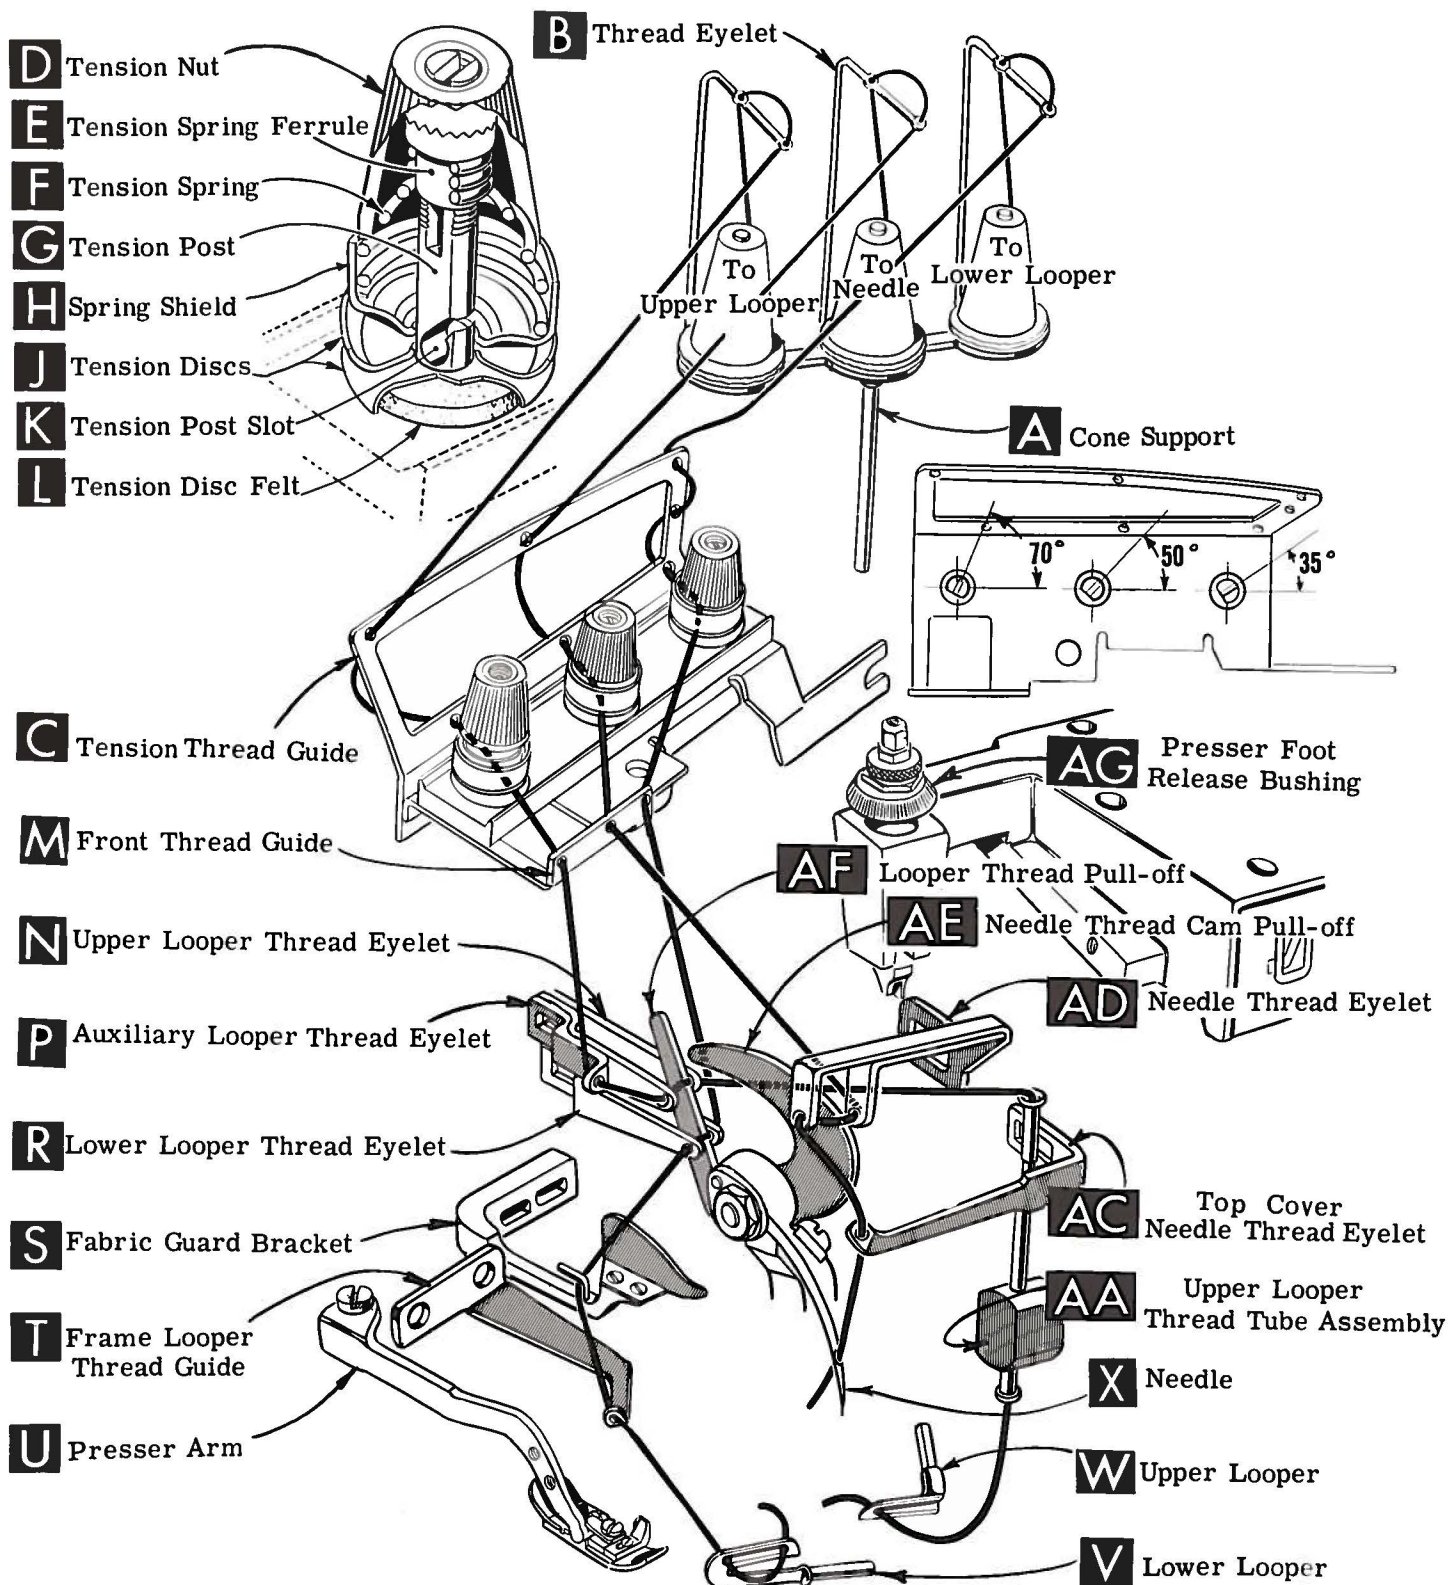

Fig. 1
Release pressure on presser foot by turning presser foot release bushing (AG, Fig. 1) and swing presser arm (U) out of position. Turn handwheel in operating direction until needle is at its lowest point of travel. Using hexagonal socket wrench No. 21388 AU, furnished with machine, loosen needle clamp nut about 1/4 turn. Again turn handwheel until needle is at high position; withdraw needle.
After thread comes from cones on cone support (A, Fig. 1), it is brought up through back hole of thread eyelet (B), then down through the front hole of thread eyelet. Next it is threaded through the upper holes of tension thread guide (C) from front to back and then through the lower holes from back to front. It should be noted that the lower looper thread is threaded through the tension thread guide (C), first through the upper hole back to front, second through the middle hole front to back and third through the lower hole back to front. All threads then continue between the tension discs (J), through tension post slot (K) in tension post (G) and on through front thread guide (M).
Only parts involved in threading are shown in threading diagram (Fig. 1). Parts are placed in their relative positions for clarity.
Be sure threads, as they come from the tension thread guide (C), are between tension discs (J) and in diagonal slots (K) in tension posts (G). The tension posts should be positioned so the tension post slot will be at the approximate angle for the different threads as indicated in Fig. 1.
Thread lower looper thread through right eyelet of front thread guide (M). Then double end of thread and lead it through both eyes of lower looper thread eyelet (R, Fig. 1) from right to left. Note: thread must pass in front of looper thread pull-off (AF). Lead thread behind fabric guard (S) and through eyelet hole of frame looper thread guide (T). Turn handwheel in operating direction until heel of lower looper (V) is all the way to the left; then thread through both eyes from left to right. Left eye of lower looper can be threaded easily if tweezers are in left hand.
Thread needle thread through middle eyelet of front thread guide (M). Then turn handwheel in operating direction until needle (X, Fig. 1) is at its highest position. Insert needle thread from right to left, through both eyes of needle thread eyelet (AD), under neck of top cover casting; then down through hole in top cover needle thread eyelet (AC). Thread needle from front.
The amount of tension on needle and looper threads is regulated by tension nuts (D, Fig. 1). Tension on threads should be only enough to secure proper stitch formation.